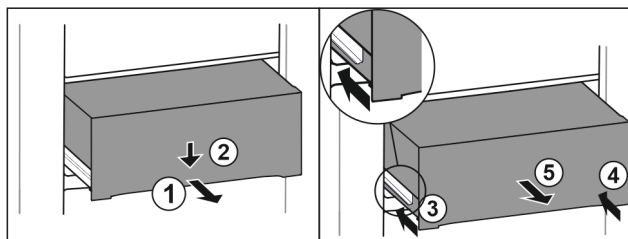

Fig. 172
- Pull out drawer half-way. Fig. 172 (1)
- Push the drawer down at the front. Fig. 172 (2)
- Push the left rail in by about 2 cm. Fig. 172 (3)
- Push the right rail in by about 2 cm. Fig. 172 (4)
- Remove drawer to the front. Fig. 172 (5)